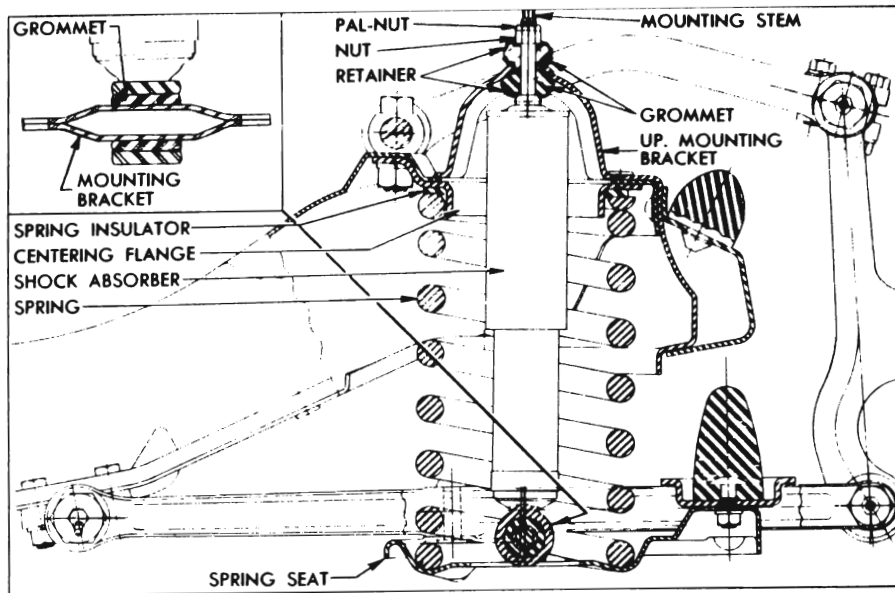

Figure 7-15—Front Spring and Shock Absorber Installation
1. Hold shock absorber mounting stem with a $\frac{1}{4}$ " end wrench while removing pal-nut and retaining nut, then remove grommet retainer and rubber grommet. See figure 7-15.